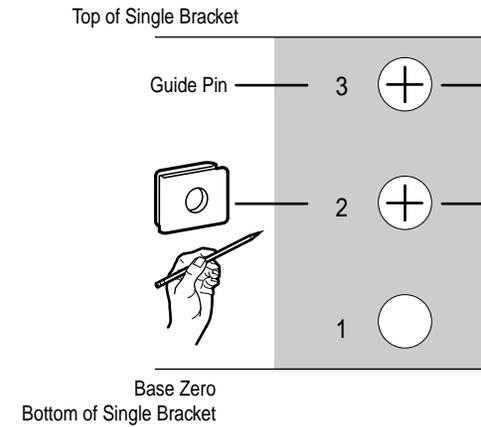

Figure 6 Template
- Using the template on the back of this card (Figure 6), on both front rails and the rear interior rails, mark base zero and hole 2 (see Figure 2).